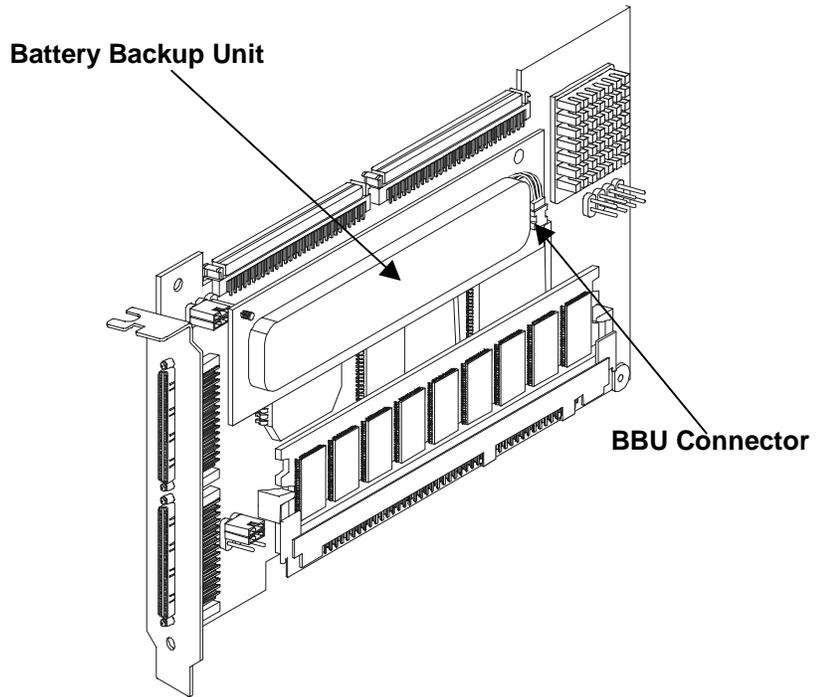

Figure 8-3. Unplug Battery Backup Unit on HP NetRAID-2M Board
2. Install the new adapter, as described in Step D of Chapter 5, "Installation and Configuration." If you are installing an HP NetRAID-2M adapter, be sure to plug in the Battery Backup Unit first (see Figure 8-3, above).